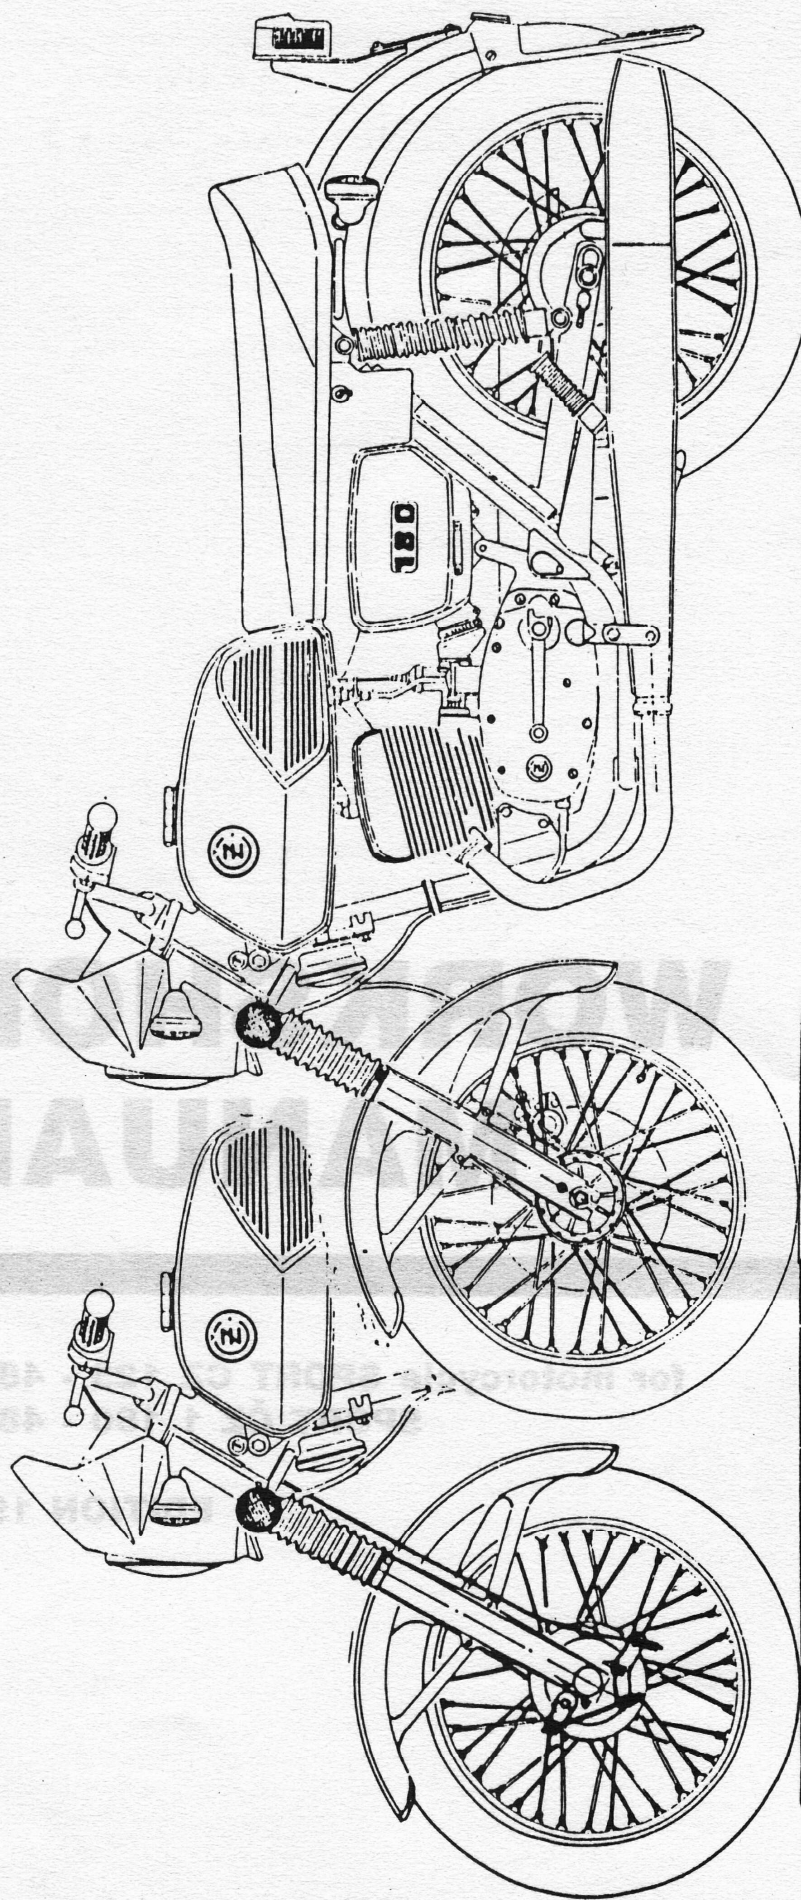

Fig.1 - View of the motor - cycle
- Fig. 1 - View of the motor-cycle